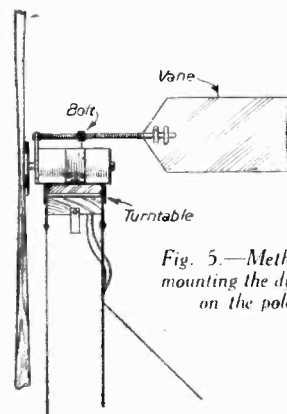

Fig. 5.—Method of mounting the dynamo on the pole.
Fig. 5.—Oscillograph record showing a fault on one phase (3) of a power line. The cathode beams are swept across the screen when the fault occurs to record the voltages on all three phases for approximately the first cycle while the film movement is starting. The rest of the record is obtained on the moving film. At (a) transient disturbance operates high-speed trip; (b) phase-to-ground fault develops—low-frequency trip operates; (c) breaker clears fault.
The records obtained with the original sweep speed, which was fairly high, did not disclose any very high frequencies in the initial part of the disturbance on the power system under observation. Consequently, the circuits were arranged so that the resolution due to the sweep gradually merges with that from the film movement, thereby producing a continuous record. An example of the results obtained by the method is shown in Fig. 5. Comparison with records of faults obtained with a string oscillograph has effectively closed the gap of approximately one cycle required to start the string oscillograph.
The method of mounting the dynamo on the pole is shown in Fig. 5. Fixed to a long bolt which projects from the top of the machine is a wind vane to keep the face of the propeller into the wind. When